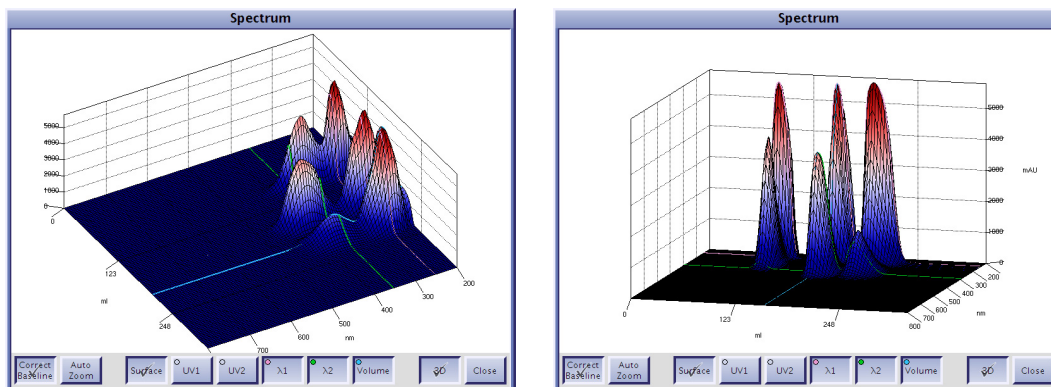

Figure 4-24. 3D Absorbance Spectrum in Different Perspectives
- c. To show a 3D absorbance spectrum instead, press 3D. Drag the 3D spectrum to change the perspective, see the examples below in Figure 4-24. Note that the way it looks here is the way it will look in the archive report.